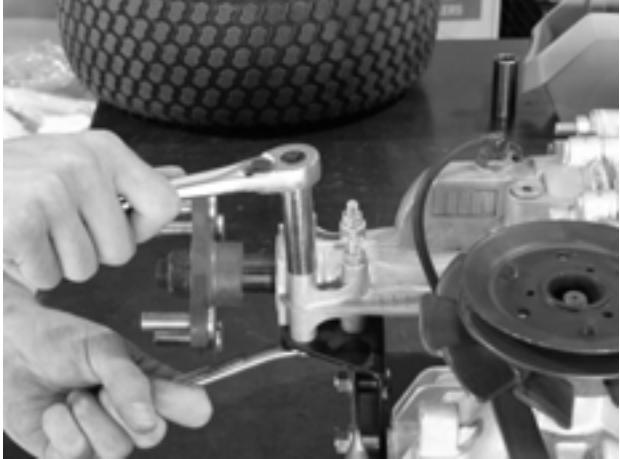

Figure 66
13. Using a 1/2" wrench and 1/2" socket, remove the four nuts securing the hydro pump to the lower support **Figure 66.**